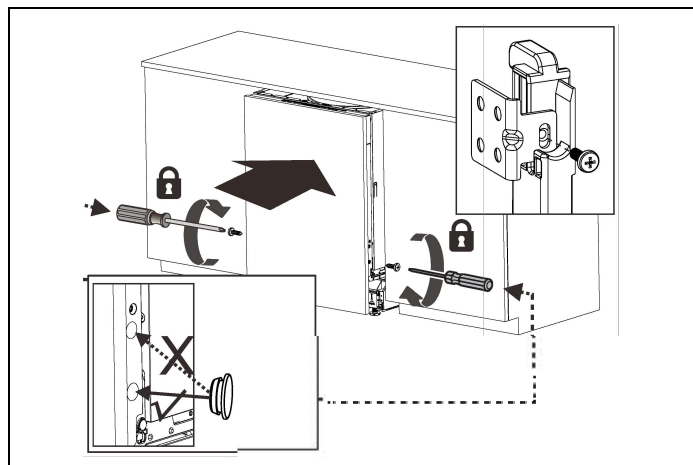

Fig. 18
- 3) After positioning the panel in place, fix the custom door to the outer door of the dishwasher with the two screws provided in the two lower installation holes Fig. 18 .